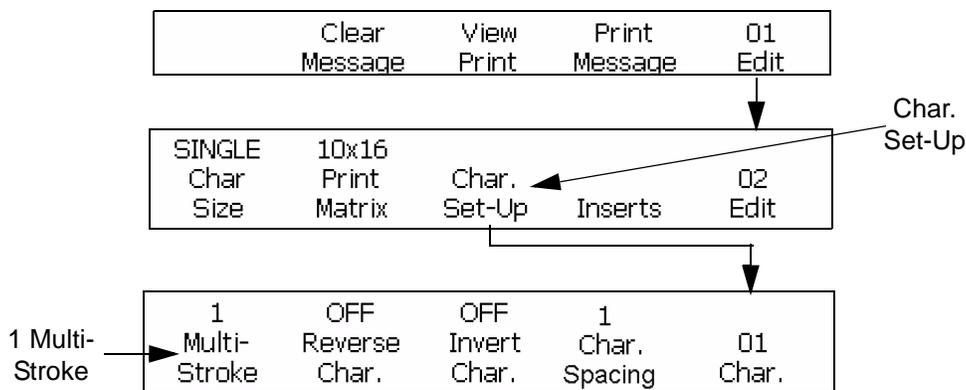

Figure 6-12: Accessing Frame <01 Char>
- 2 Begin in the Frame <01 Char>. Refer to Figure 6-12.